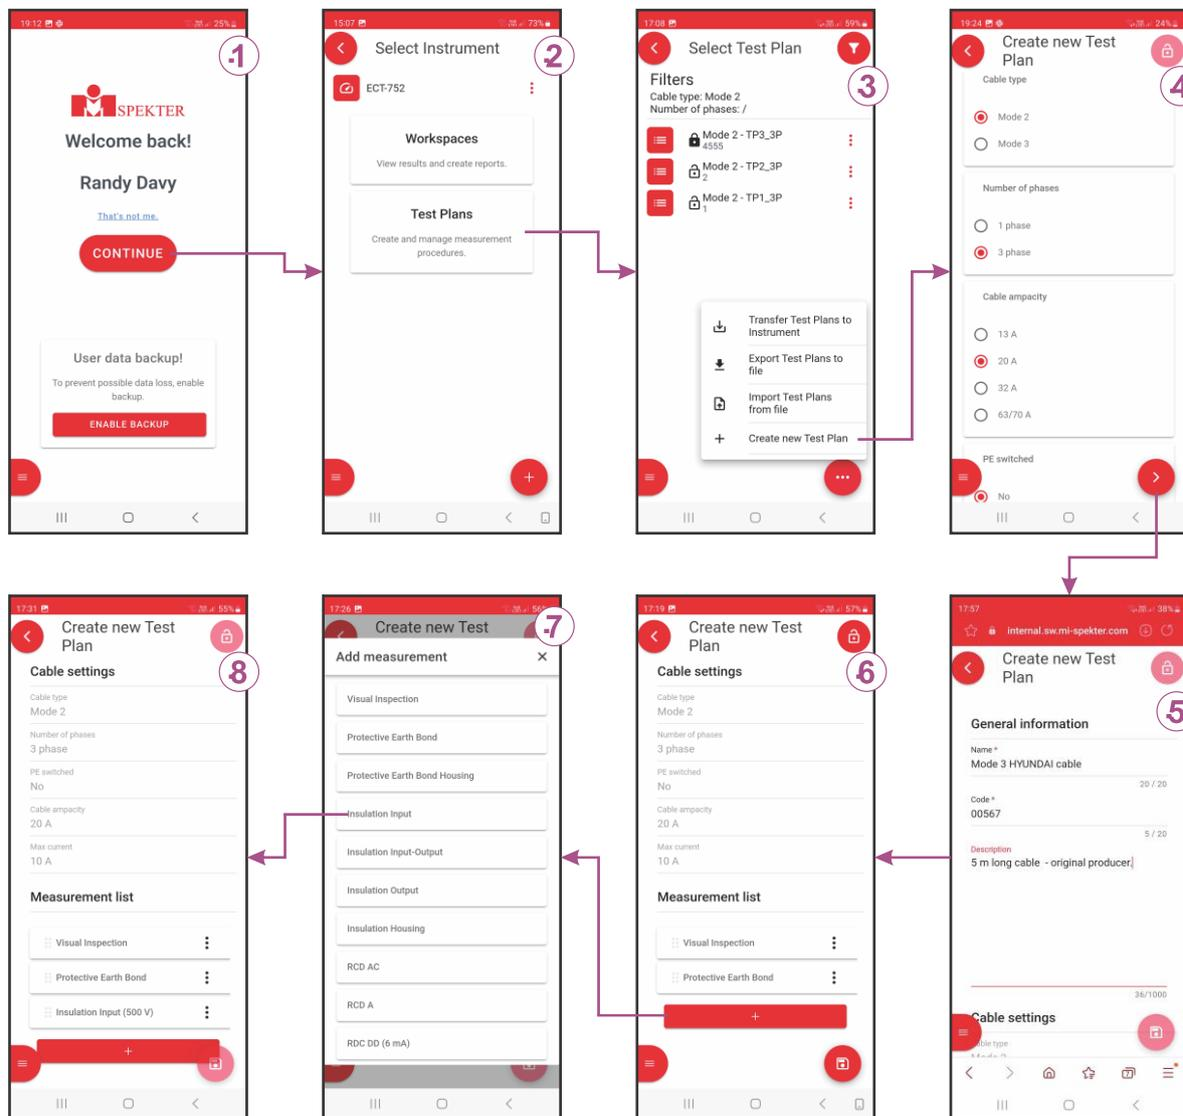
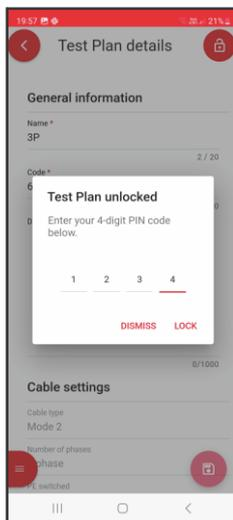

Figure 11: Principle of how to create new Test Plan
Figure 13: Entered PIN
- Open the application, Main Menu will appear, see the screen 1 of Figure 11.
Test Plans can be created or edited in “MiControl” application only. To create new Test Plan, follow the screens shown on Figure 11.
Explanation of screens on picture Figure 11:
- Start from screen 3 on the Figure 11, click desired Test Plan field, then click the  pad ⇒ 4-digit PIN (Personal Identification Number) will be required, see the Figure 13. Enter your PIN.